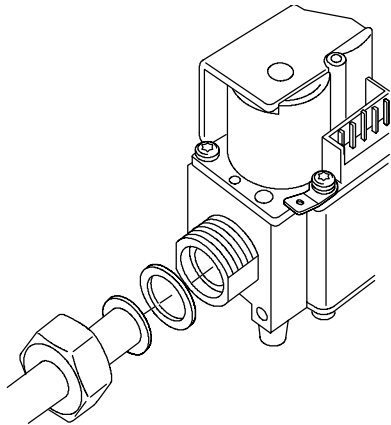

Fig. 17. External thread connection with nut and flat sealing ring
- ③ **With nut and flat sealing ring for pipe 15 mm (see fig 17.)**
- ④ **With nut and flat sealing ring for pipe 18 mm (see fig 17.)**